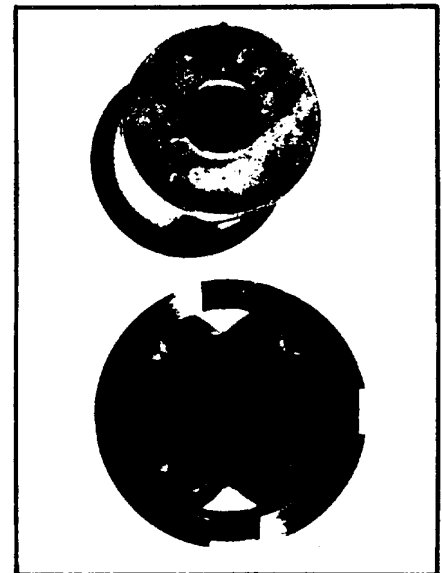

Figure 40
NOTE: The coupling shaft (11) has a timing mark on the small (output) end that is radically in line with two internal spline teeth and a "commutator drive pin slot" that transverses the opposite end of the coupling shaft, SEE FIGURE 40. The "commutator drive pin slot" indicated by the timing mark is the only slot of two oil passage slots across the large end of the coupling shaft, wide enough to engage the commutator drive pin (10) at assembly. This orientation of the coupling shaft splines aid drive pin slot is important to subsequent assembly procedures that will produce the required rotor (6A) lobe and commutator (9) "fixed" radial relationship at assembly.
NOTE: FIGURE 40, shows two coupling shafts to better illustrate the relative positioning of the timing mark, drive pin slot and internal spline tooth.